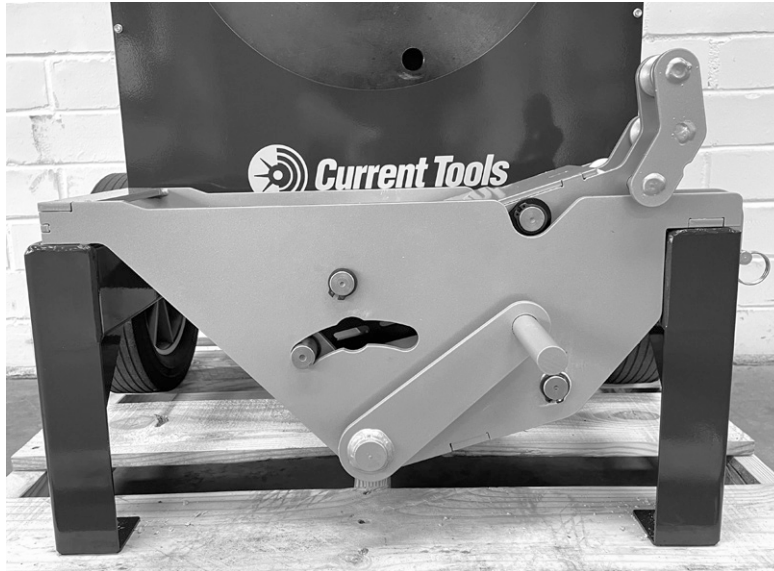

Figure 18a
1. Mount the correct roller support for 1/2" thru 1" aluminum EMT conduit (part #2-4400) according to the instructions on page 10. See Figure 18a